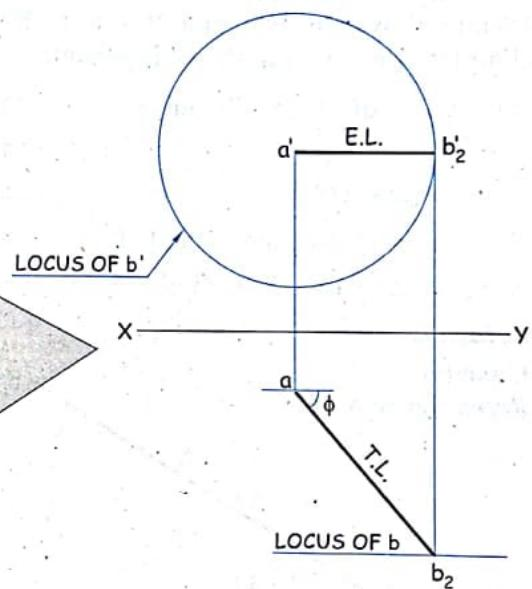

FIG. 8.13
**To Construct an Orthographic Projection of Line  $AB_2$ . Refer figure 8.13.**